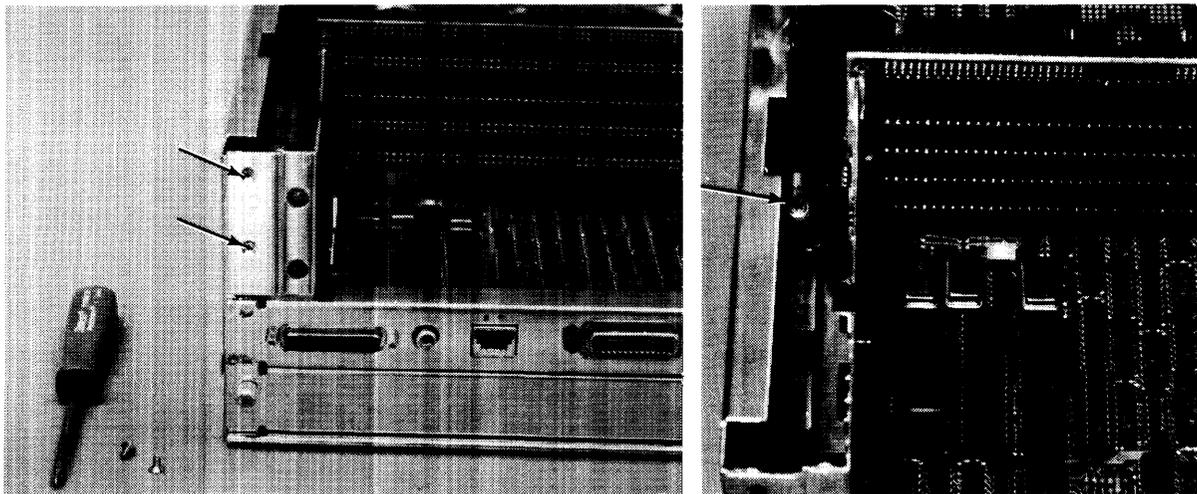

Figure 2-14. DIO Card Cage Screws
3. Remove the screws holding the card cage to the chassis. Refer to Figure 2-14.